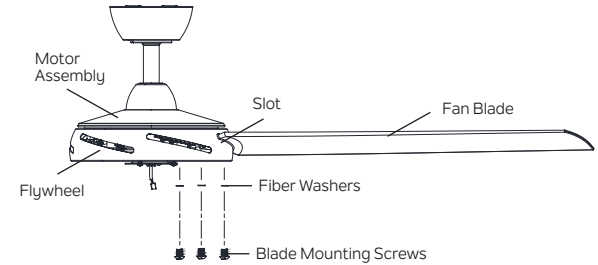

Fig. 15
Step 1. Insert fan blade through a slot in the flywheel. (Fig. 15)
Step 2. Repeat for the remaining fan blades. (Fig. 15)